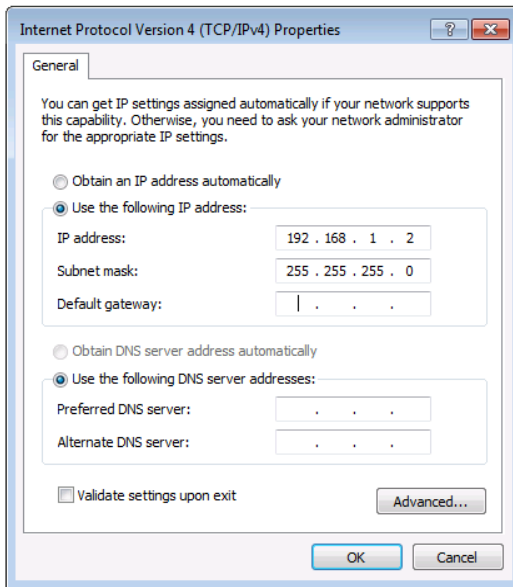

Figure 9: Internet Protocol Properties Window
6. Select **Use the following IP Address** for static IP addressing and fill in the details as shown in Figure 9.